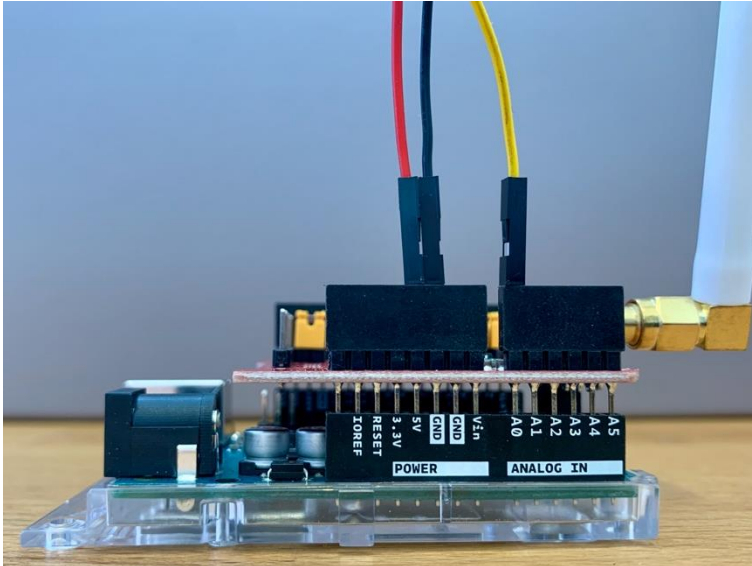

Figure 12: Yellow wire, connected to the A0 terminal
- c. SIG (yellow wire) to an Analog terminal, A0 ( Figure 12)